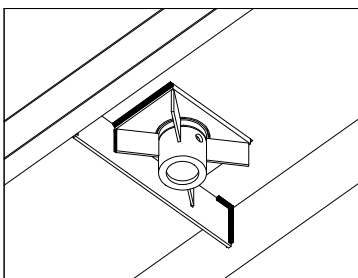

Figure 4
- 3. Install the socket braces.** Use 1/4" T x 4" W x 16" L mild steel strap (or equivalent) to brace from the truck bed C4 x 5.4" "C" channel cross members, in front of the socket assembly to the truck bed cross member rear of the socket assembly (1/4" x 4" x 16" strap not included). The 4" strap will need to have a 2-1/2" round relief hole cut on the driver side for the handle to travel through. When welding the strap, weld the fins on the socket to the strap, stitch weld the strap to the floor of the bed, and weld to the truck bed cross members, see Figures 4 & 5. Consult the B&W engineering department for an installation that deviates from our recommended installation practices or any other installation questions.